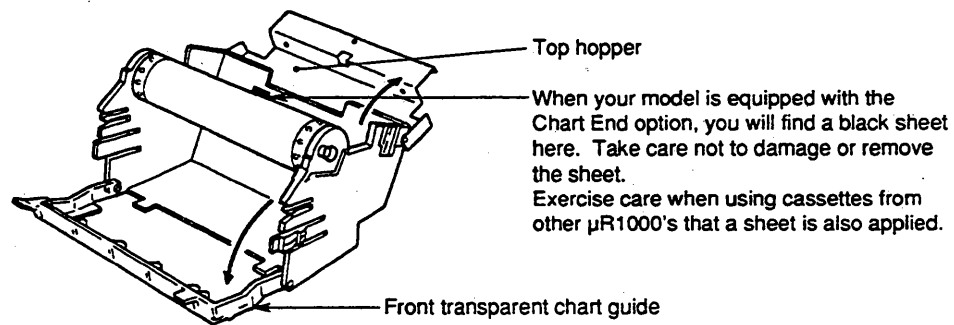

Figure 3-3. Loading the Chart-2
5. Press the sides of the chart guide plate at the top rear of the chart compartment and swing the guide plate up (see Figure 3-3).
6. At the front, pull/swing the front transparent chart guide down (see Figure 3-3).